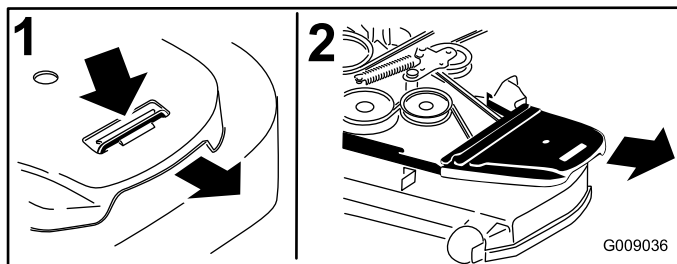

Figure 70
4. Remove the belt covers (Figure 70).